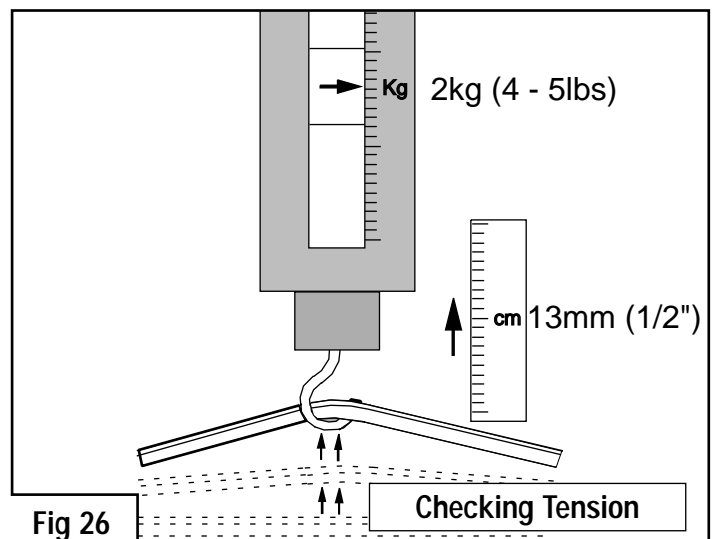

Fig 26
2. Select a midway position on the Belt between the front (Electric Clutch) pulley and rear (Cutter Deck) pulley and using a spring balance; apply a 2Kg (4-5lbs) pull (fig 26).